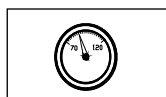

Fig.4
5. Regulate the air pressure to obtain 70 PSI (4.8 bar) at the tool. (See Fig. 4)